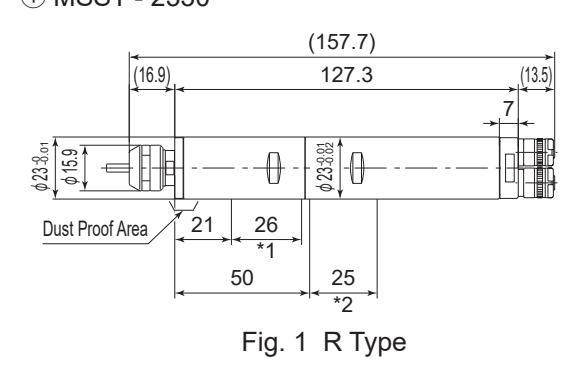

Fig. 1 R Type
- When mounting an Air Motor Spindle, refer to the Clamping Area etched on the Air Motor Spindle. These Air Motor Spindle have 2 Clamping Area refer to " 6 - 2 Outside View (Fig. 1- Fig. 6)"